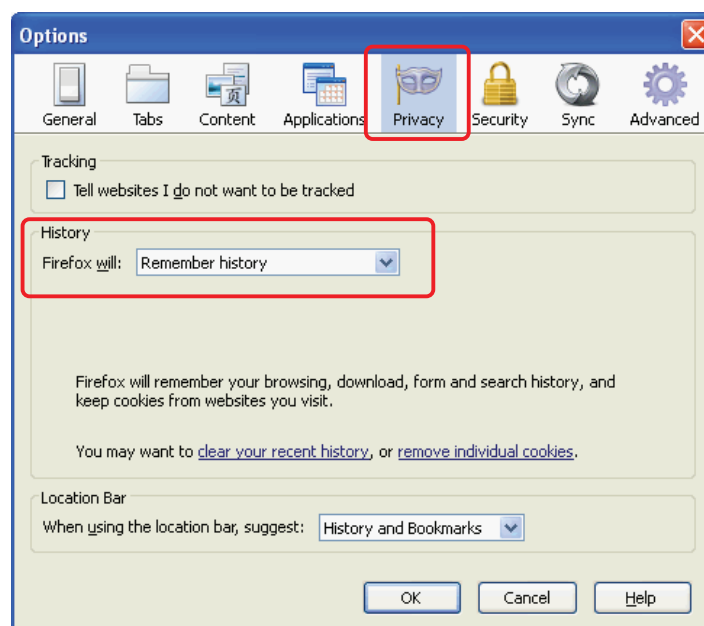

Figure 119. Cookie Preferences
2. To enable cookies, click the **Privacy** tab and from the **Firefox will** drop-down menu, select **Remember history** (see figure 119).